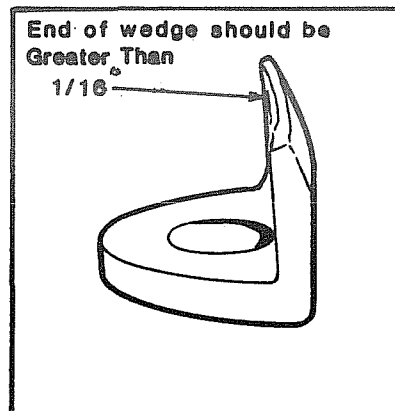

Figure III-13: Minimum dimensions for rim clamp wedge portion.
- f. Check the rim clamps for wear as in Figure III-13. The end of the wedge portion should be at least one-sixteenth of an inch. If this is not the case, install new rim clamps per the installation instructions given in section III.A of this manual.